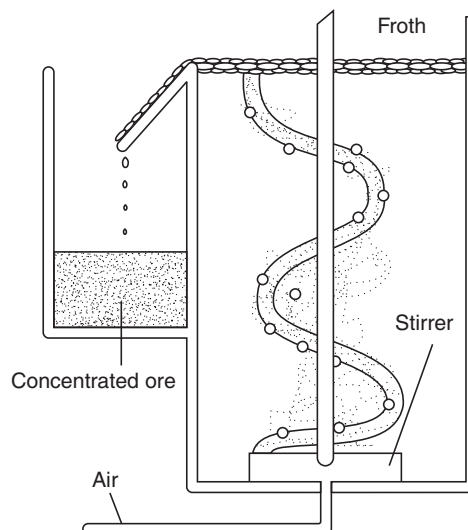

Fig. 14.4 Concentration of ore by oil floatation.
- (iii) *Oil floatation process.* Oils have just the opposite effect, they are attracted by sulphide ores. Oils form a film over the sulphide ore. The pulverised sulphide ore is taken in a tank and some pine oil and water are used. Generally some xanthates are used with pine oils. Air is made to bubble through a perforated pipe from the underneath of the tank. A foam is produced and floats along with the sulphide ore over the surface of water. But the sand and soil are settled down. The concentrated ore is collected from foam (Fig. 14.4).